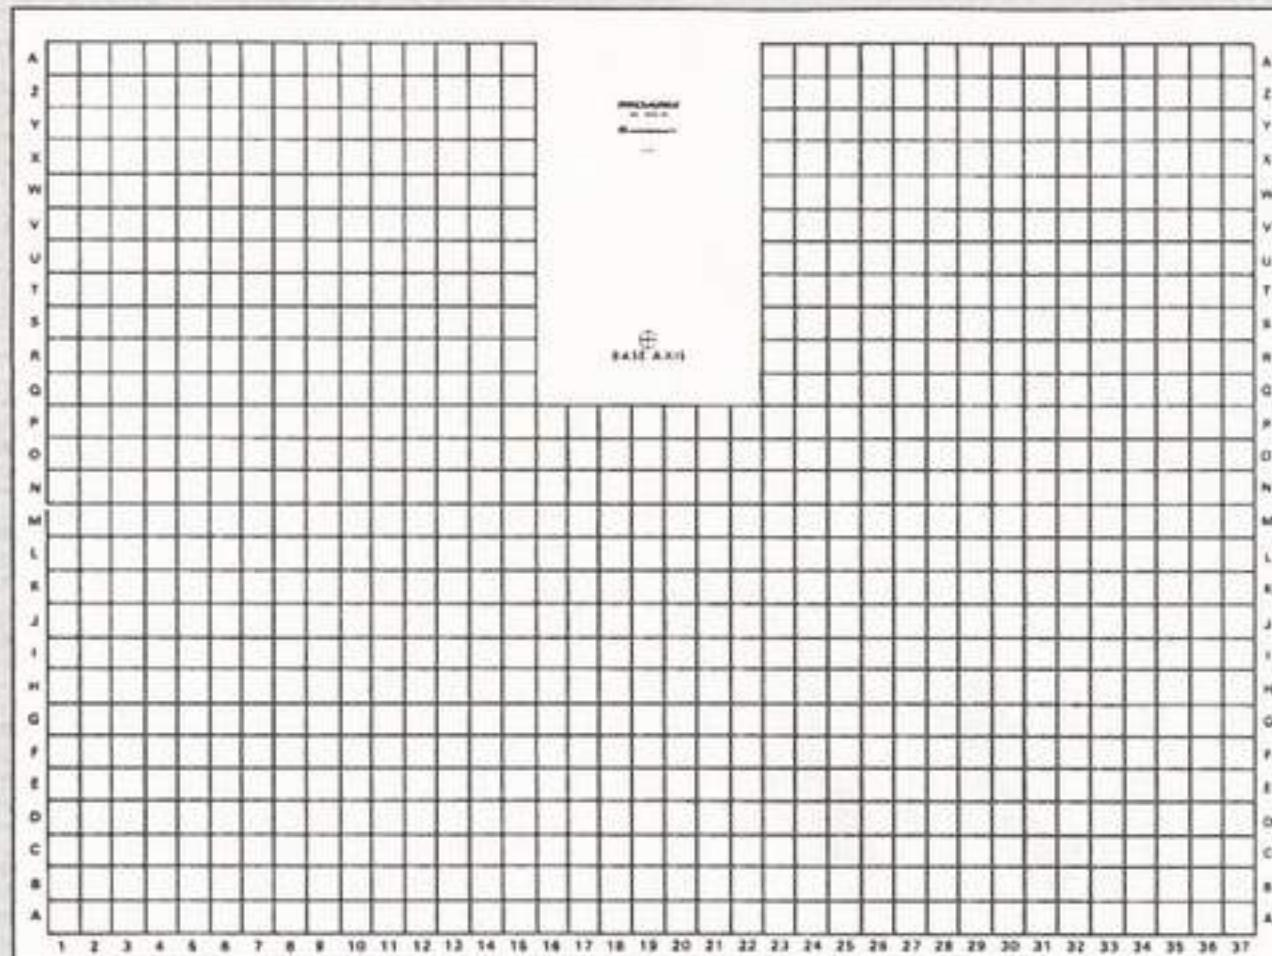

Fig. 79: Working Space Chart—Horizontal Work Envelope
- p. Copy the Horizontal Work Envelope from the grid sheet onto the appropriate portion of the Working Space Chart in Fig. 79.